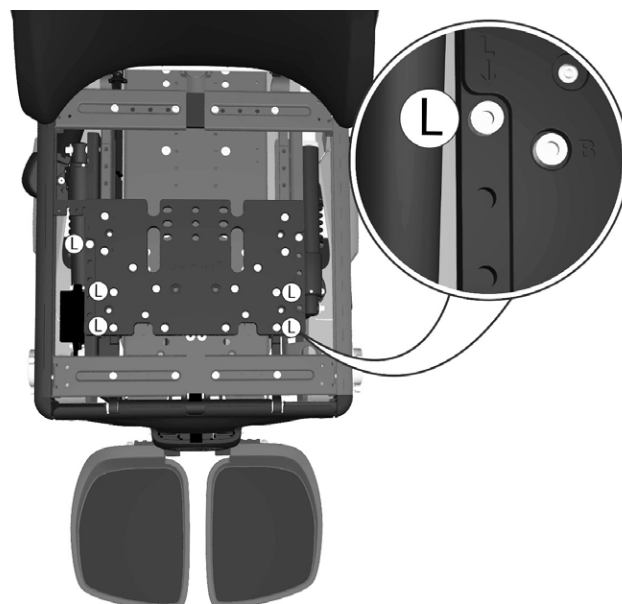

Figure 244. The position of the front part of the Seat frame (Leg rest position) is fixed by five screws marked with the letter L.
4. **Adjustment of the front section of the Seat frame (Leg rest position):** Remove the five screws marked (L) securing the Seat frames front section. See fig. 244.